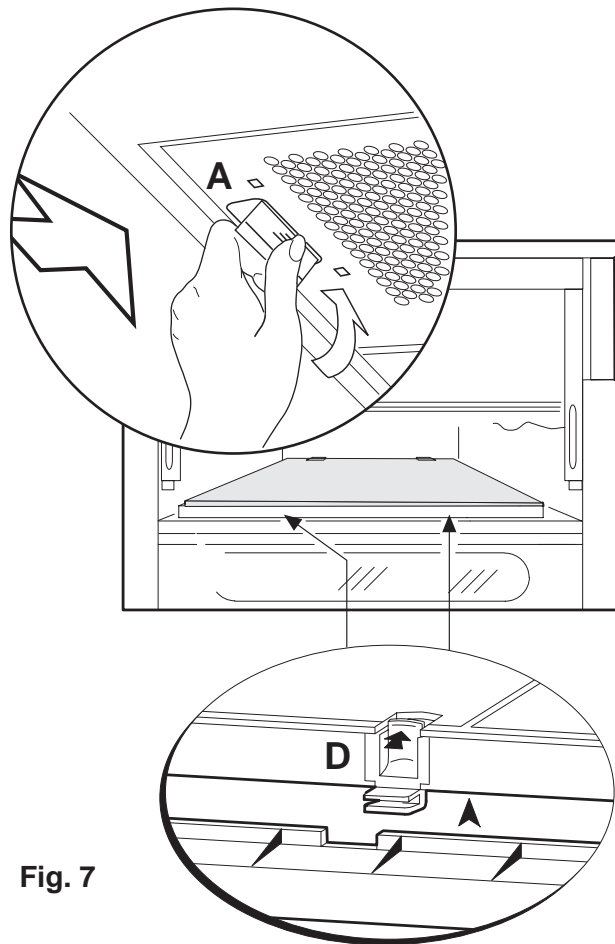

Fig. 7
- Open the grid (A - fig. 7).
- Insert the filter in the place provided and use the two hooks D to fasten it (fig. 7).
- Use handle **A** to remove the filter from its seat (fig. 7).
To remove the carbon filter press the two keys **D** (Fig. 7) and pull the filter slightly forwards to free it.